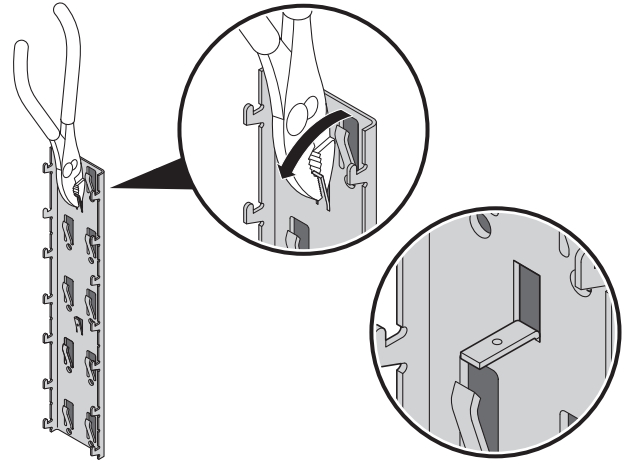

FIG. H9
10. Before attaching the slats, only on SLAT profiles where there will be a vertical joint between slats, joint tabs, bend the prongs in the middle of the profile outwards. This sets where the joint should be between slats (FIG. H9)